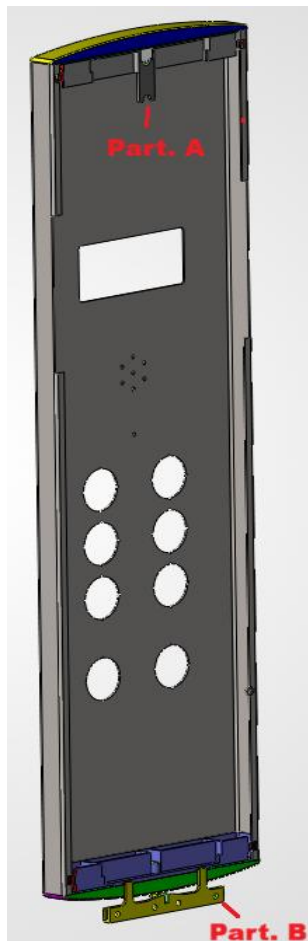

Fig. 2—COP with Part.A (Lower bracket) and Part.B (Tailpiece)
2. Join the two components: insert the bracket tabs into the corresponding slots on the lower end of the COP (Fig. 2 e 2.1).